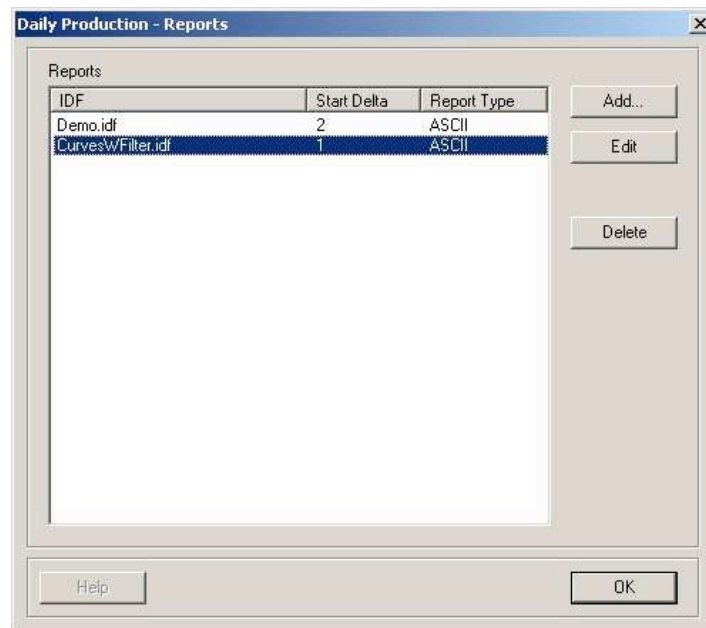

Figure 83: Daily Production - Reports List Screen
- Click “Add” from the “Daily Production – Reports” list page (see Figure 83) to add report requests to the list of pending daily production report jobs. Highlight an existing request and click “Edit” to modify an existing report request.
- Check the “Include Questionable Quality Data” box to include data that failed Reed-Solomon (RS) checking or other quality checking (where applicable).
- Add or edit another request on the “Daily Production – Reports” list page (see *Figure 83*) or click “OK” when finished adding daily production report requests.